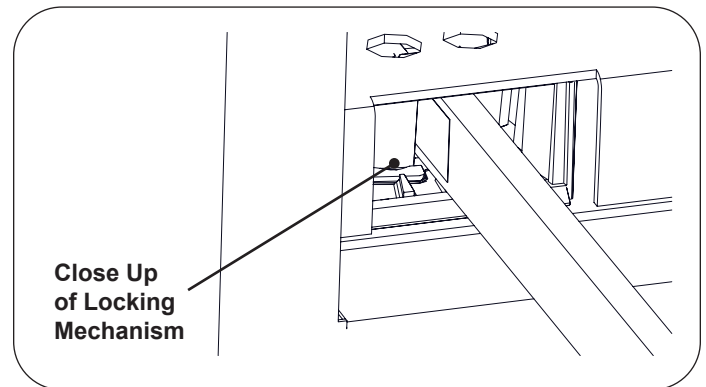
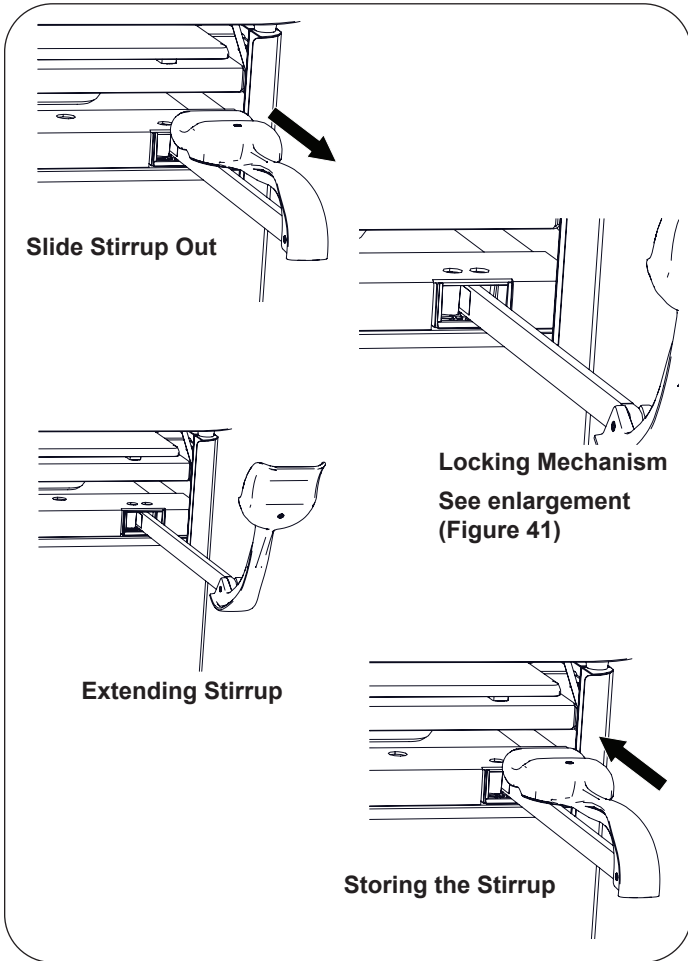

Figure 41. Stirrup Locking Mechanism
Figure 42. Stirrups
1. To operate the stirrups, grasp end of stirrup and pull straight out of the table (Figure 42). Lift up slightly while sliding the stirrup out.
2. When the desired position is achieved, lower the stirrup to engage the lateral locking mechanism (Figure 41 and Figure 42).